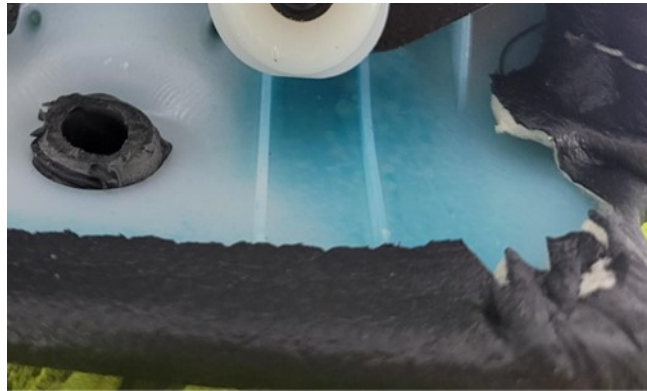

Fig. 3
- It maybe necessary to remove the grommet from the door panel by pushing it through by hand or with a screwdriver (Fig. 3) .